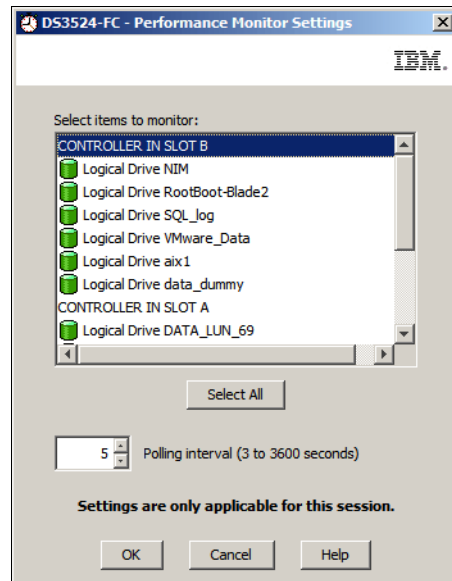

Figure 14-99 Performance Monitor Settings
- Click the **Settings** button to configure the Performance Monitor (Figure 14-99). In this window you select the specific logical drives and controllers that you want to collect performance counters for. Click the **Select All** button to collect performance counters for all logical drives and controllers in the subsystem. You also specify how often the performance counters should be updated by specifying the **Polling interval** in seconds. Click **OK** to exit the settings window after you have selected the subsystem logical drives and controllers that you want to monitor.